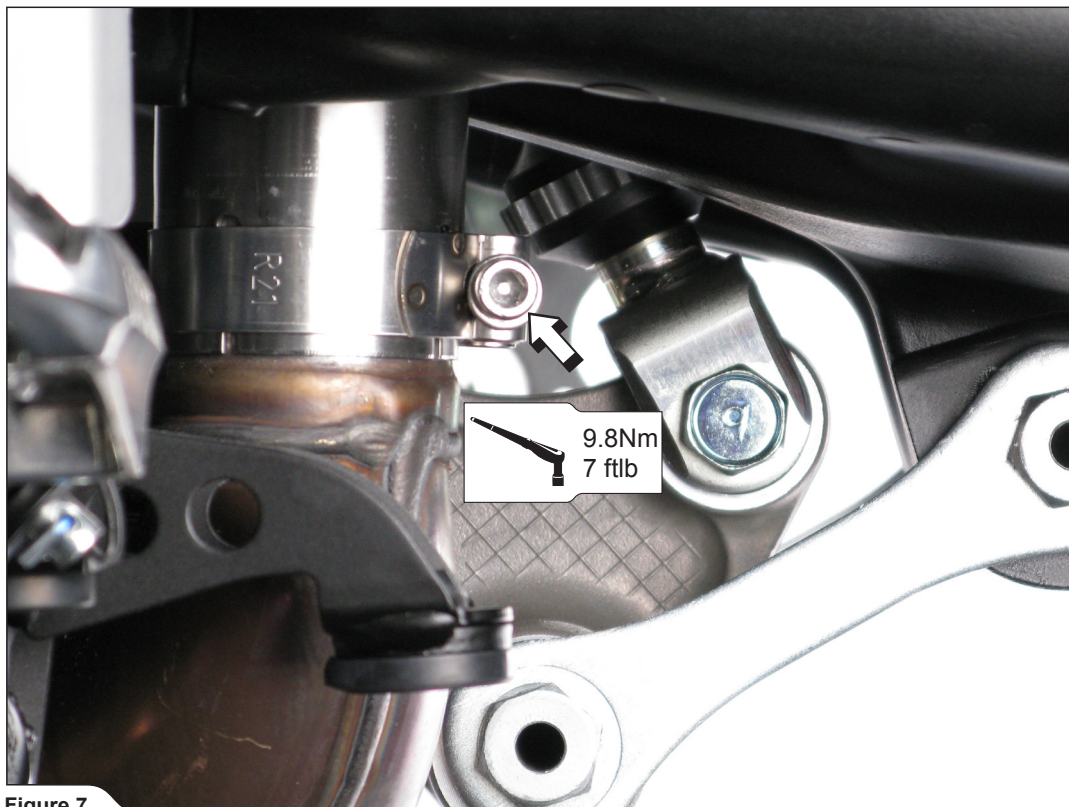

Figure 7
4. Tighten the metal clamp at the Akrapovič link pipe/stock collector joint (**Figure 7**).